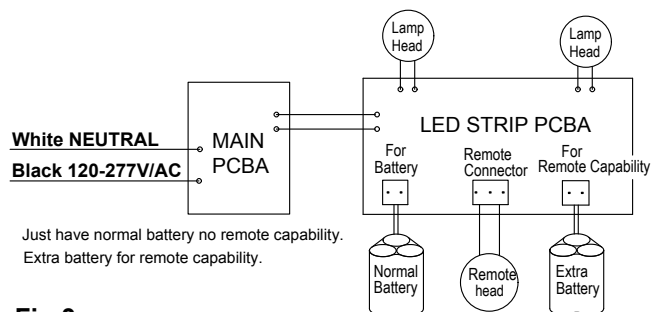

Fig 3
5. Make proper electrical connections according wiring diagram(see Fig 3).